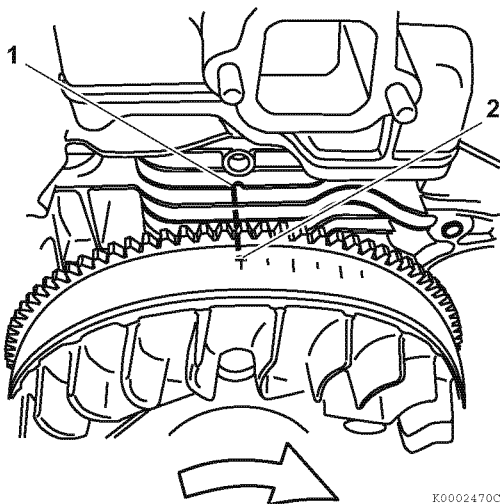

Figure 6-23
1. Rotate the flywheel until the TDC (Top Dead Center) mark on the flywheel (2, **Figure 6-23**) aligns with the left-hand edge of the timing reference “notch” on the cylinder cooling fin (1, **Figure 6-23**).